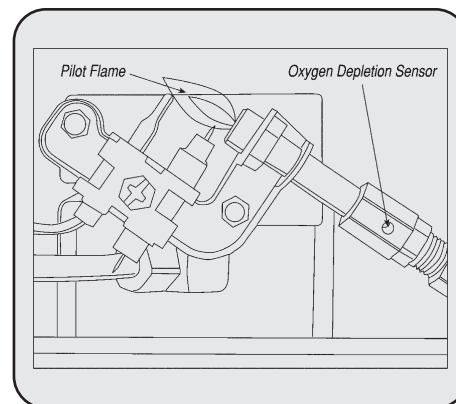

Figure 8
- Visually inspect the pilot flame and burner periodically during use. The pilot flame should be blue in color (not yellow) and will extend to the thermocouple. The flame will surround the thermocouple just below the tip. See Figure 8.
3. Remove (4) four screws that secure the rear cover (ref. # 3) to the heater.
5. Remove (3) screws attaching lower baffle to expose burner air openings.
8. Inspect and clean pilot (mounted to bracket) by using a vacuum or apply air pressure through the holes in the pilot indicated by the arrows in Figure 8.
10. Reinstall lower baffle with (3) screws.
11. Slide back cover over (2) plastic hooks on top of heater. Make sure rear cover aligns with plastic side covers and reinstall (4) screws to hold in place.